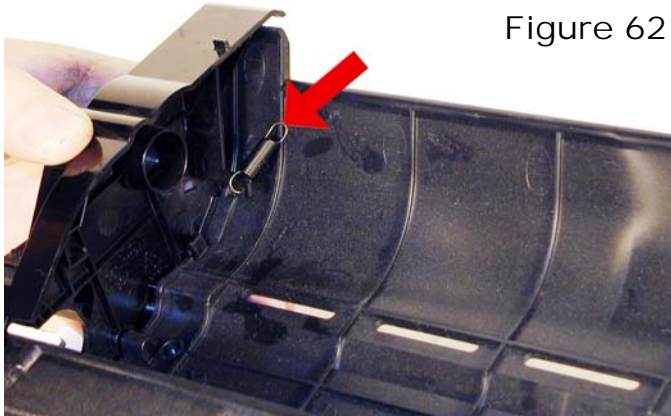

Figure 62
56) Install the hopper spring onto the end cap. See **Figure 62**